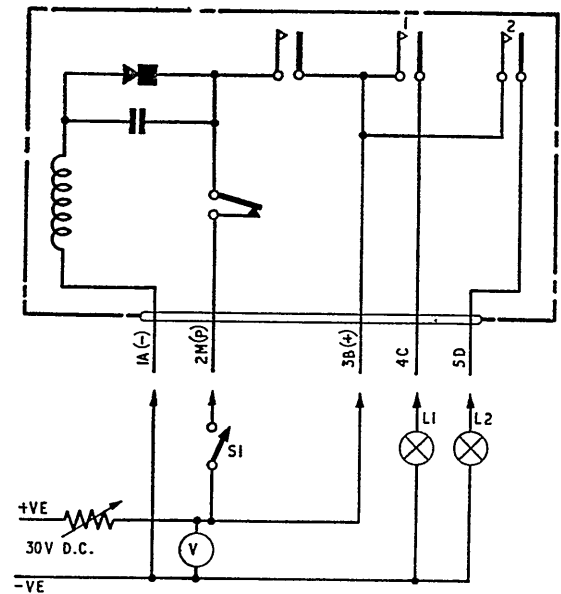

Fig. 1. Switch, Type D8437, circuit diagram and test circuit
1. This time delay switch has two pairs of circuit contacts, the circuit diagram (fig. 1) shows the switch internal wiring and the associated test circuit. The total motor run and circuit contact timing is detailed in para. 3.